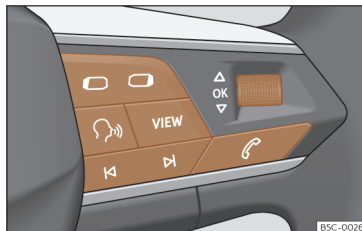

Fig. 11 Right side of multifunction steering wheel: buttons to the menus and informative indications on the instrument panel (depending on the version).
As long as a priority 1 >>> page 23 warning is active, it will not be possible to access any menu. Some warnings can be confirmed and hidden with the button **OK** of the multifunction steering wheel >>> **Fig. 11**.
- If a message or vehicle symbol is displayed, press the button **OK** >>> **Fig. 11**; several times if necessary.